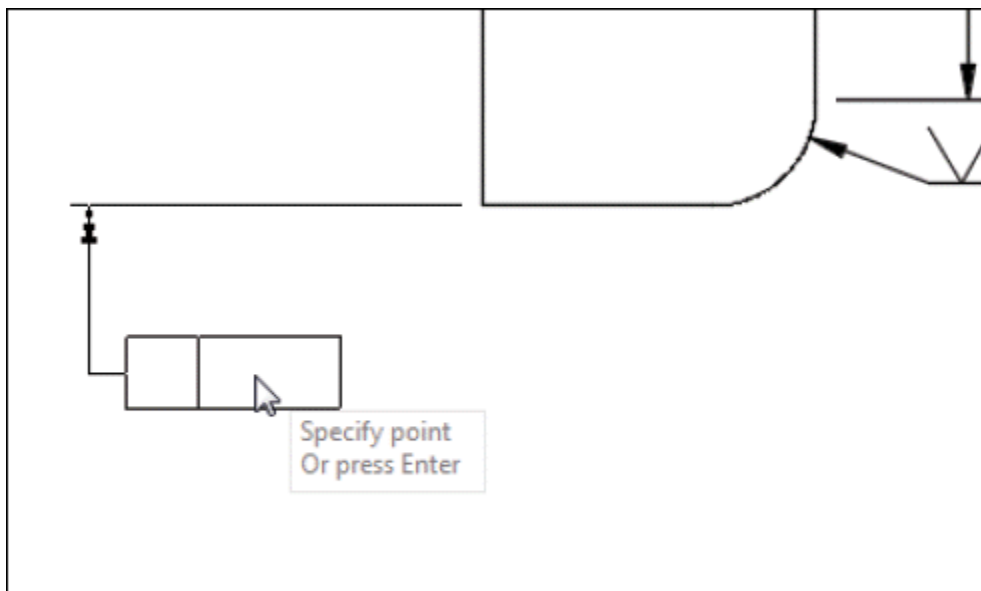

Figure-99. Placing the rectangular box
- Click on the drawing to select the object. An arrow will be attached to the cursor; refer to Figure-99.